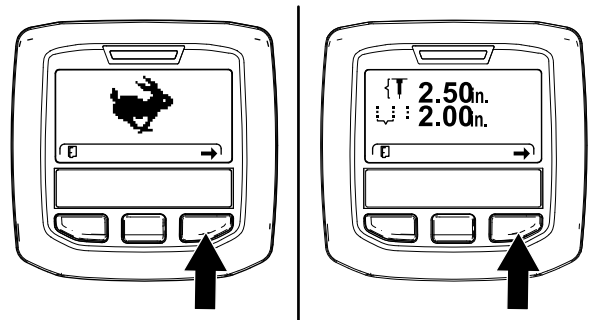

Figure 65
**Note:** The TRANSPORT mode screen or the AERATE mode screen displays (Figure 65).